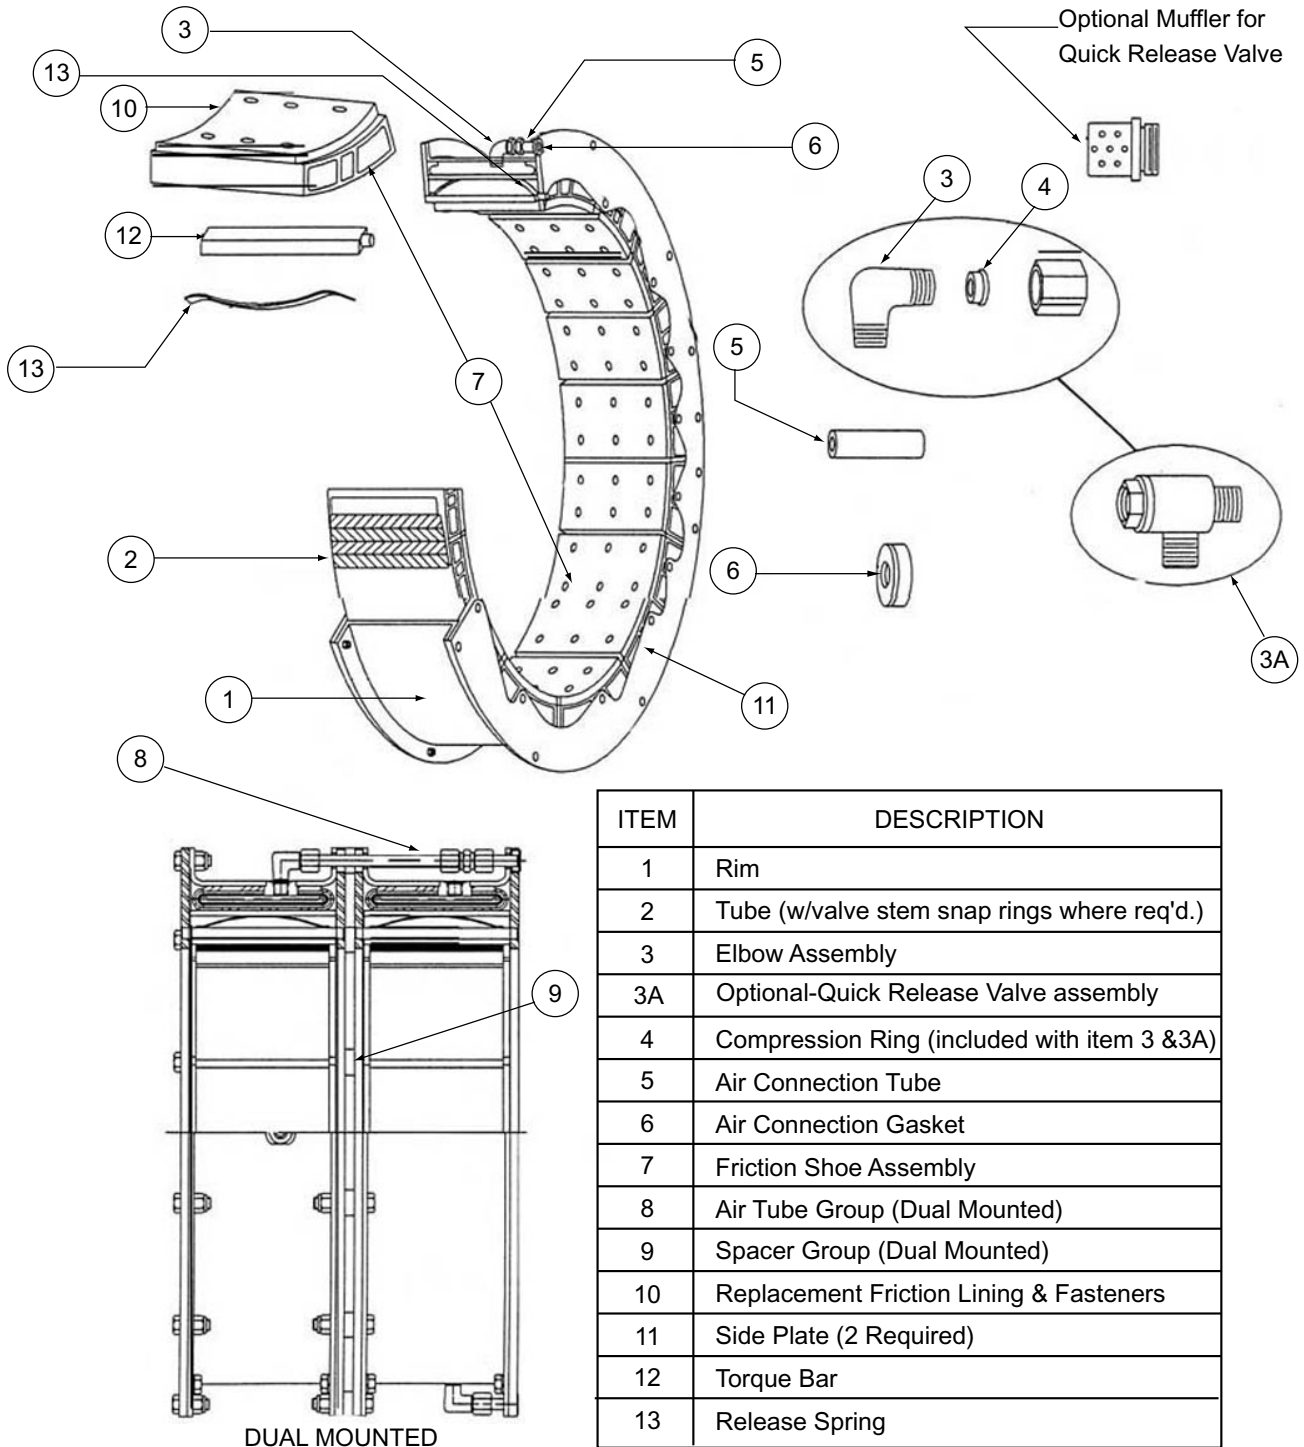
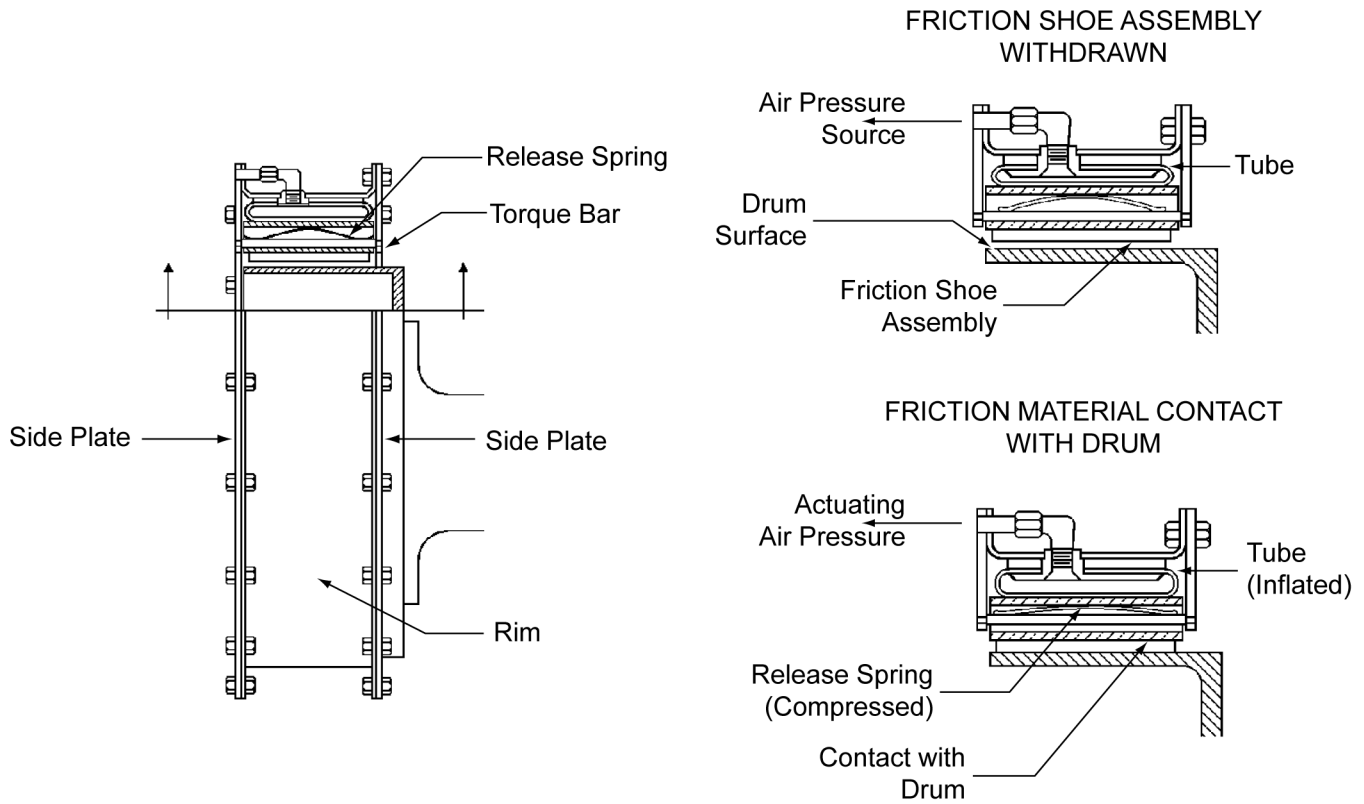

Figure 1 - Component Parts for Airflex Type VC Element
Figure 2
- 1.2.1 Referring to **Figure 1** and **Figure 2**, the neoprene and cord actuating tube is contained within a steel rim which is drilled for mounting to the driving component (or reaction bracket in the case of a VC brake application). As air pressure is applied to the air actuating tube, the tube inflates, forcing the friction shoe assemblies uniformly against the drum which is attached to the driven component. The friction shoe assemblies, which consist of friction blocks attached to aluminum backing plates, are guided by torque bars which are secured to side plates. In the case where the VC element is being used as a clutch and is attached to the driving shaft, the torque flow is from the driving shaft, through the element mounting component (typically an iron spider), through the rim/side plate structure, through the torque bars to the backing plates and friction material, where the torque is transmitted through the friction couple to the components mounted on the driven shaft (clutch drum and drum mounting component). As actuating air is exhausted, release springs and centrifugal force assure positive disengagement.